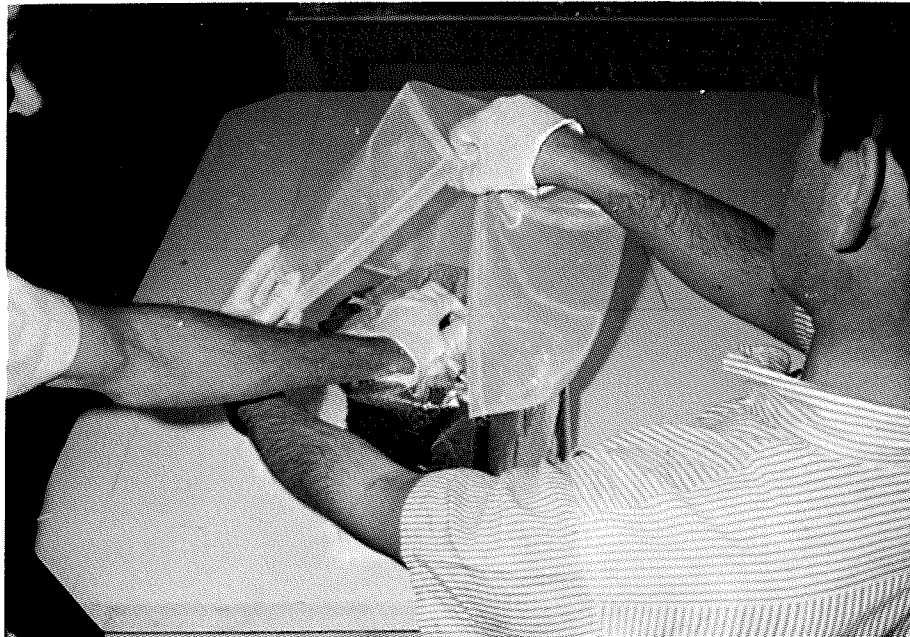

FIG. 11
STEP 9. While first person holds all insulation gathered at top with one hand, second person brings shroud stowage girdle over the arm of the first as in Figure 11. As girdle is brought down, first person slowly removes hand from inside girdle while at the same time holding insulation down with other hand from outside the girdle (Figure 12).